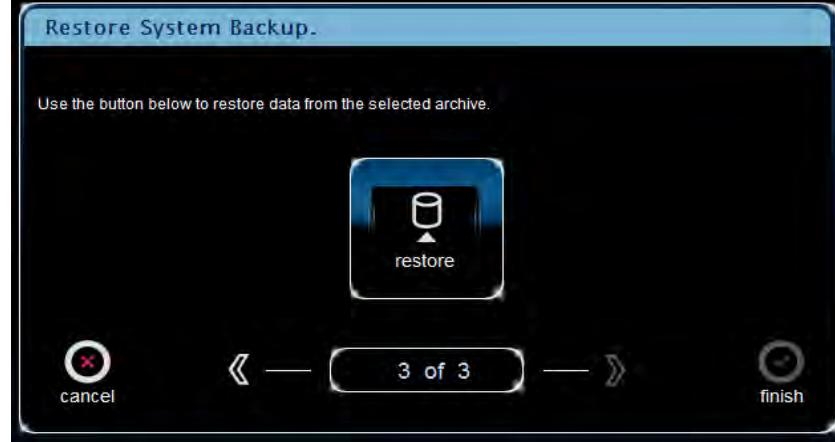

Figure 3-27 Restore System Backup Screen
7. Click the highlighted arrow to access the third **Restore System Backup** screen, as shown in Figure 3-27.